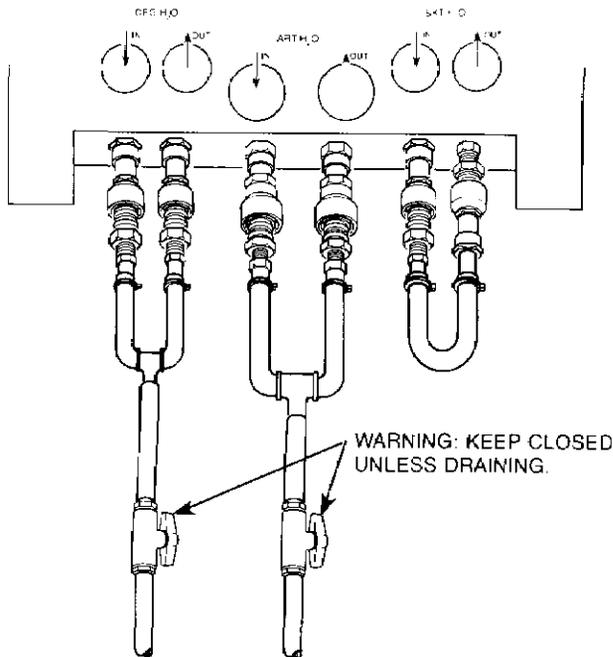

FIGURE 8: CLOSED CIRCUITS
1. **Make closed circuits** by connecting each set of In and Out ports with about 2 ft. (0,6 m) of tubing (see Figure 8); include a ball-type valve and drainage line in the cardioplegia and arterial water circuits. Position the unit near a sink or floor drain.